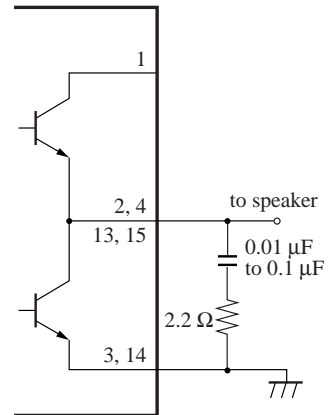

Figure 2
- (1) In order to increase the oscillation allowance, it is unnecessary to use a capacitor and a resistor between each output terminal and GND. However, when inserting the capacitor for countermeasures against output line noise between the output terminal and GND, insert a resistor of approx.  $2.2\ \Omega$  in series as shown in Figure 2. The oscillation may occur if only capacitor is used. Use it after giving a sufficient evaluation.
- (2) The use of polyester film capacitor having a little fluctuation with temperature and frequency is recommended as the capacitor for countermeasures against output line noise.